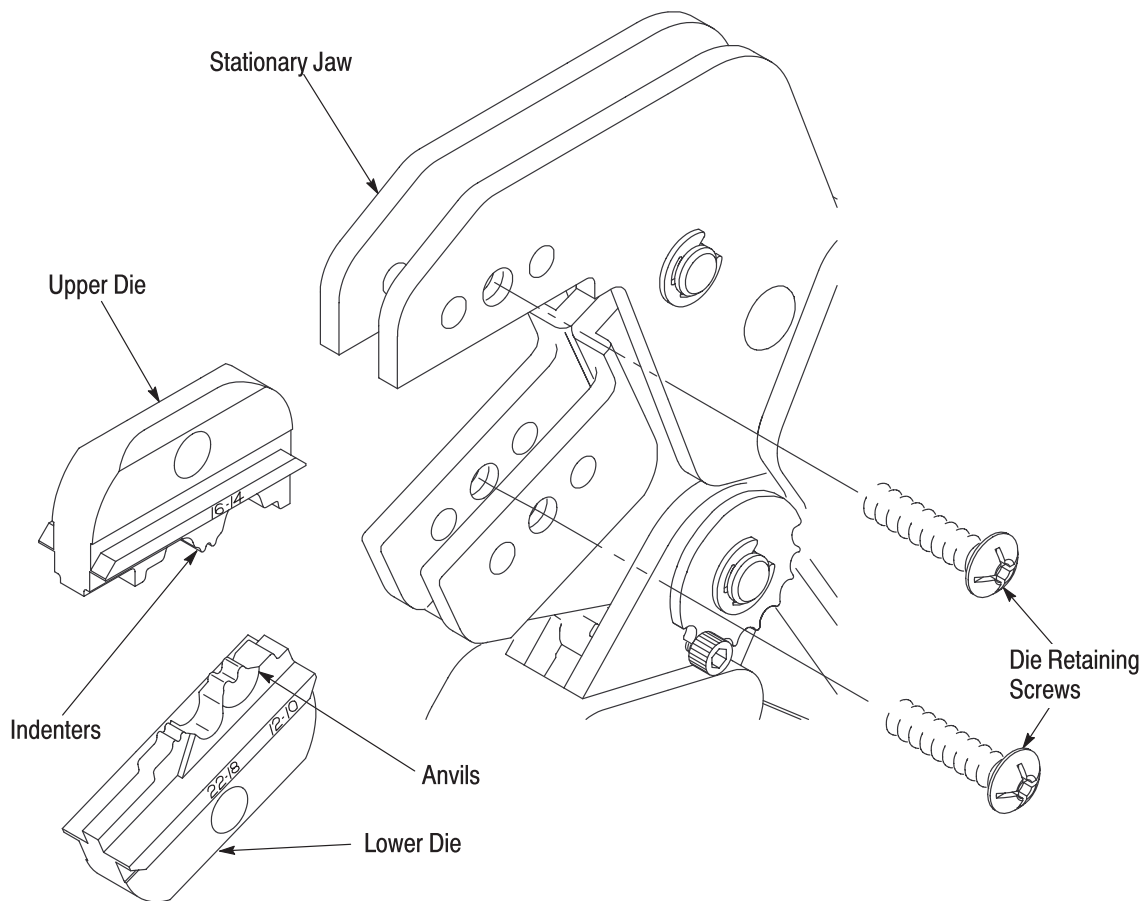

Figure 2
2. Place the upper die in the stationary jaw of the tool frame so that the largest indenter is facing inward. See Figure 2.
4. Place the lower die in the moving jaw of the tool frame so that the largest anvil is facing inward. See Figure 2.
- Changed artwork in Figures 2 and 3